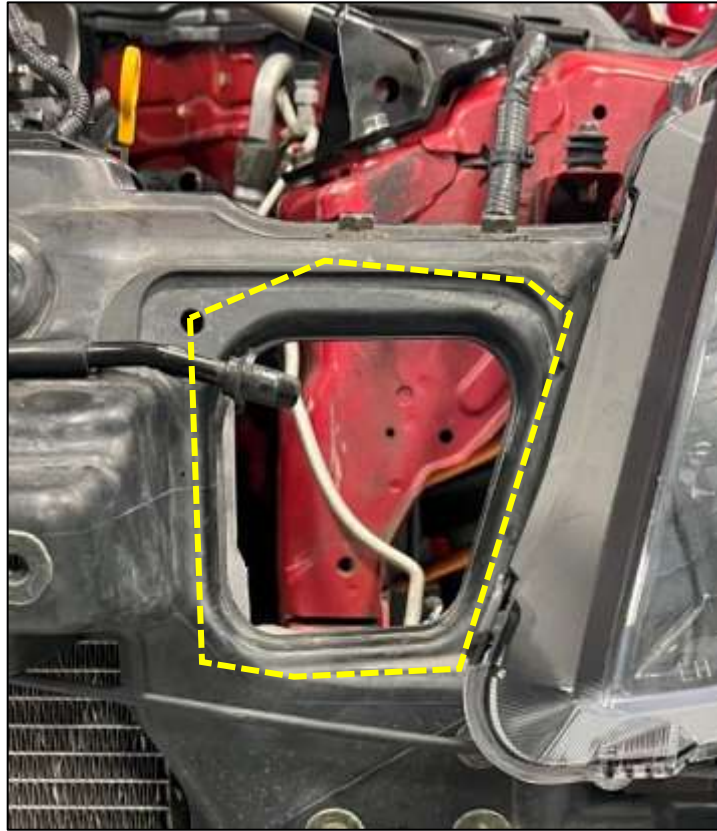

Figure 15
3. **350Z Owners:** The Driver Side Core Support Pass Through should clear the Intake Piping, however it can be enlarged with a Body Saw if you want more clearance and an easier installation. *Figure 15.*